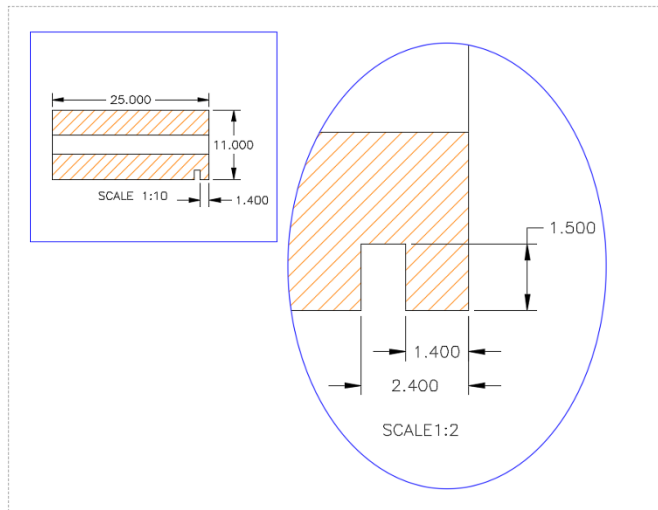

FIGURE 12-3:
Earlier in this chapter, I say that viewport boundaries should normally be placed on their own non-plotting layer. That is generally true for the main viewport that shows all or most of the objects in model space. Standard practice, however, is for details at different scales to display their viewport boundaries, as shown in Figure 12-3. The solution is to create two layers for viewports, one that plots and one that doesn't.
- » **Viewports don't have to be rectangular.** The Ribbon's Layout tab includes three options in the Layout Viewports tab, but two will be hidden under the last one used. The options are Rectangular, Polygon (you pick a series of points that lasso the desired region), and Object, which lets you choose any existing closed shape and convert it to a viewport. That's how I created the elliptical detail in Figure 12-3.